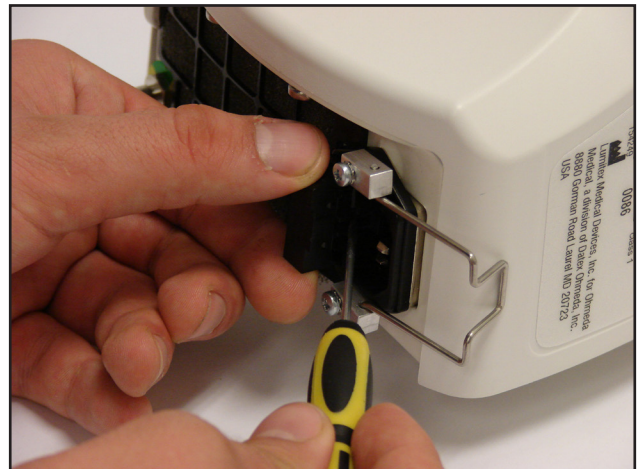

Figure 11-2
3. Use a flat-head screwdriver to open the fuse compartment lid of the power inlet module and pull the compartment out to access the fuses (Refer to Figure 11-2).